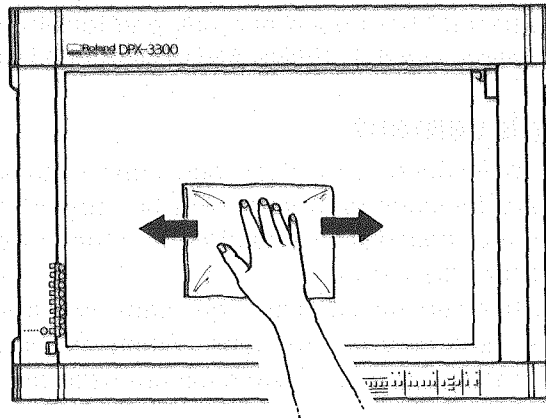

Fig. 2-10
- ⑤ Press the **PAPER HOLD** key of the control panel to light up the "PAPER HOLD" indicator LED arranged above the key. Fix the plotter paper on the electrostatic adsorption plate.
- ⑥ As shown in Fig. 2-10, skim the entire plotter paper with a soft cloth to remove wrinkles, if any. Touching the plotter paper directly with your hands may cause ink irregularities in drawing because of the fat of your hands.